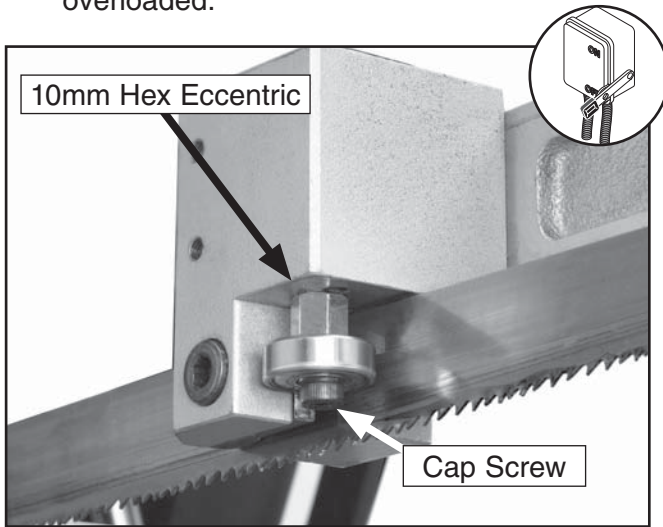

Figure 45. Upper blade guide adjustments.
- Loosen the cap screw, rotate the 10mm hex eccentric (**Figure 45**), and adjust the bearing against the side of the blade so there is no clearance, but the bearing is not overloaded.